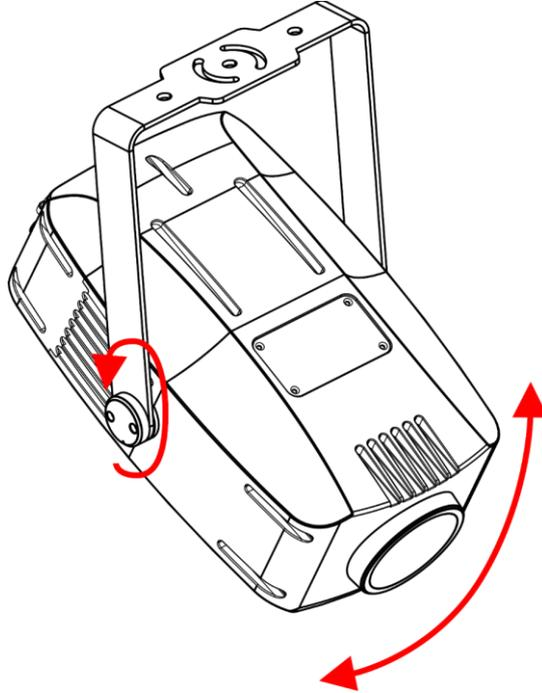

Fig. 08
- 01) Turn the **adjustment screw (03)** counterclockwise to release it.
- 02) Tilt the device to the desired angle (see Fig. 08).
- 03) Turn the **adjustment screw (03)** clockwise to tighten it. Make sure that the device cannot move freely after the **adjustment screw (03)** is tightened.